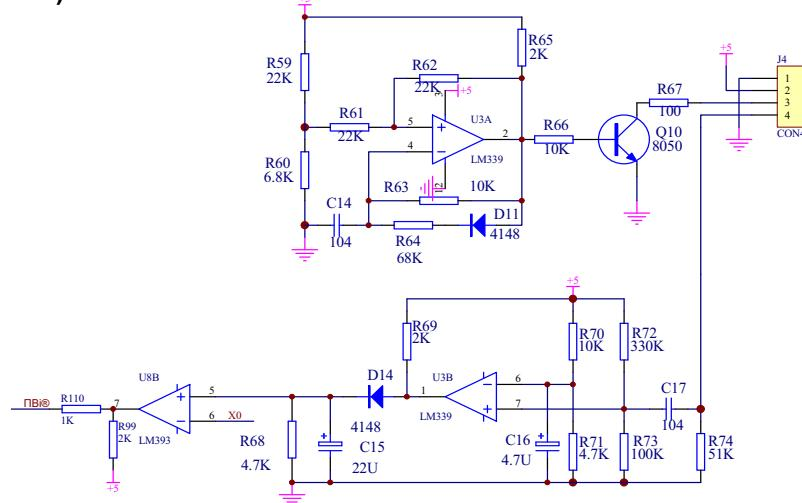

Fig. 10B Circuit Diagram of Hopper Sensor
Under the natural light, if there is no banknote on the surface of the hopper sensor, the 4Pin of J4 (Fig.10A) or the 4Pin of J9 (Fig.10B) should be below 1V. But if there is any banknote on its surface , it requires that the sensor sent out the reaction signal and after arranging the signal until  $V_c \geq 3V$ .
#### (2) NEW PRO85, PRO85U (Fig.10B)